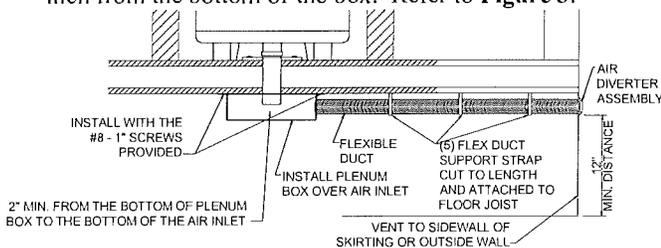

FIGURE 3
CAUTION: Location of the Air Diverter Base must take into consideration the (16) foot maximum length of Flexible Duct allowed between the Air Diverter Base and Air Inlet Plenum. The Air Diverter Assembly must be located a minimum of (12") from ground level. Refer to Figure 3. The Flexible Duct must be run reasonable straight (no turns).
3. **CHECK LENGTH OF AIR INLET PIPE:** It may be necessary to trim the length of the three (3) inch air inlet pipe so that the pipe fits into the plenum box without touching the bottom of the box. The three (3) inch air inlet pipe should fit into the plenum box about two (2) inch from the bottom of the box. Refer to Figure 3.